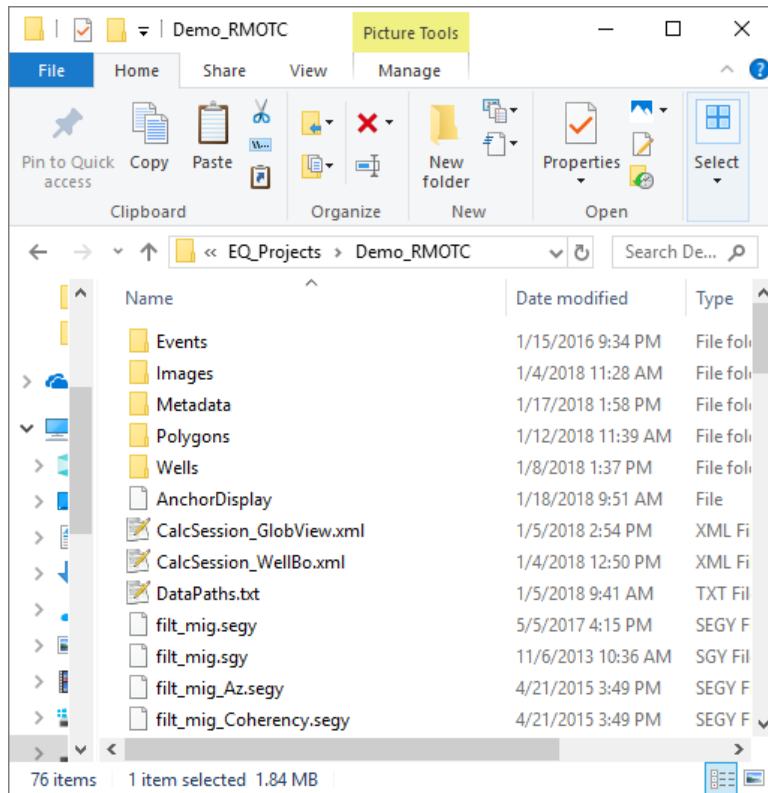

Figure 18: The Windows™ file explorer on the root folder of a project DB.
- Launcher shows Disk location for each project, which could be copied and pasted in the Windows™ file explorer to access the root path of a project. Figure 18 shows what could be obtained by doing so.